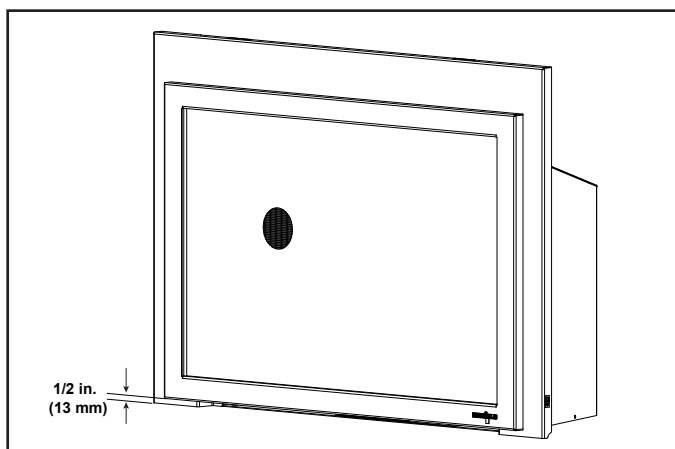

Figure 8.4 Minimum Required 1/2 in. (13 mm) Gap to Bottom of Front
- 1/2 in. (13 mm) gap under the bottom of the front must be maintained. See Figure 8.4.